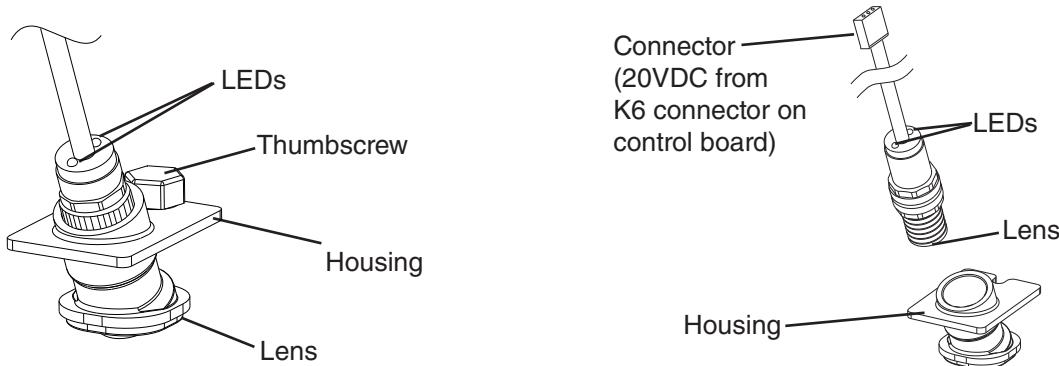

Fig. 4
- 4) Confirm that BC1 is connected to CB K6 connector. Wipe down BC1 lens with a warm, clean, damp cloth. If the bottom of the icemaker is not accessible in your application, remove the thumbscrew securing the BC1 housing, then remove the housing from the base. See Fig. 4.
- 6) Turn on the power supply to start the automatic icemaking process. Check that BC1 green LED is on. The BC1 green LED confirms 20VDC power from CB to BC1 and remains on constantly. **Diagnosis:** If the BC1 green LED is not on, confirm 20VDC at CB K6 #1 (DBU) to CB K6 #3 (BR). If 20VDC is present and the BC1 green LED is off, replace BC1. If not, see step "3) BC1 (infrared sensor) Power Supply," under "II.C. Control Board Check."
8) CB "GM" and "COMP" LEDs are on. Use an object to cover BC1 lens at the bottom of the icemaker. If the bottom of the icemaker is not accessible in your application, remove the thumbscrew securing BC1 housing, remove the housing from the base, then cover BC1 lens. See Fig. 4. The yellow LED on BC1 turns on (flashing or steady). The yellow LED flashes when ice is at the outer limit of its range and turns steady as ice nears. After the yellow LED turns on (flashing or steady), BC1 shutdown delay timer starts. See "III.B.2. BC1 (Infrared Sensor) Shutdown Delay (S1 dip switch 1, 2, 3)." Comp (LLV/SLV on MLH model) should de-energize immediately after the shutdown delay timer terminates. 5 min. later, GM and FM/FMR should de-energize.